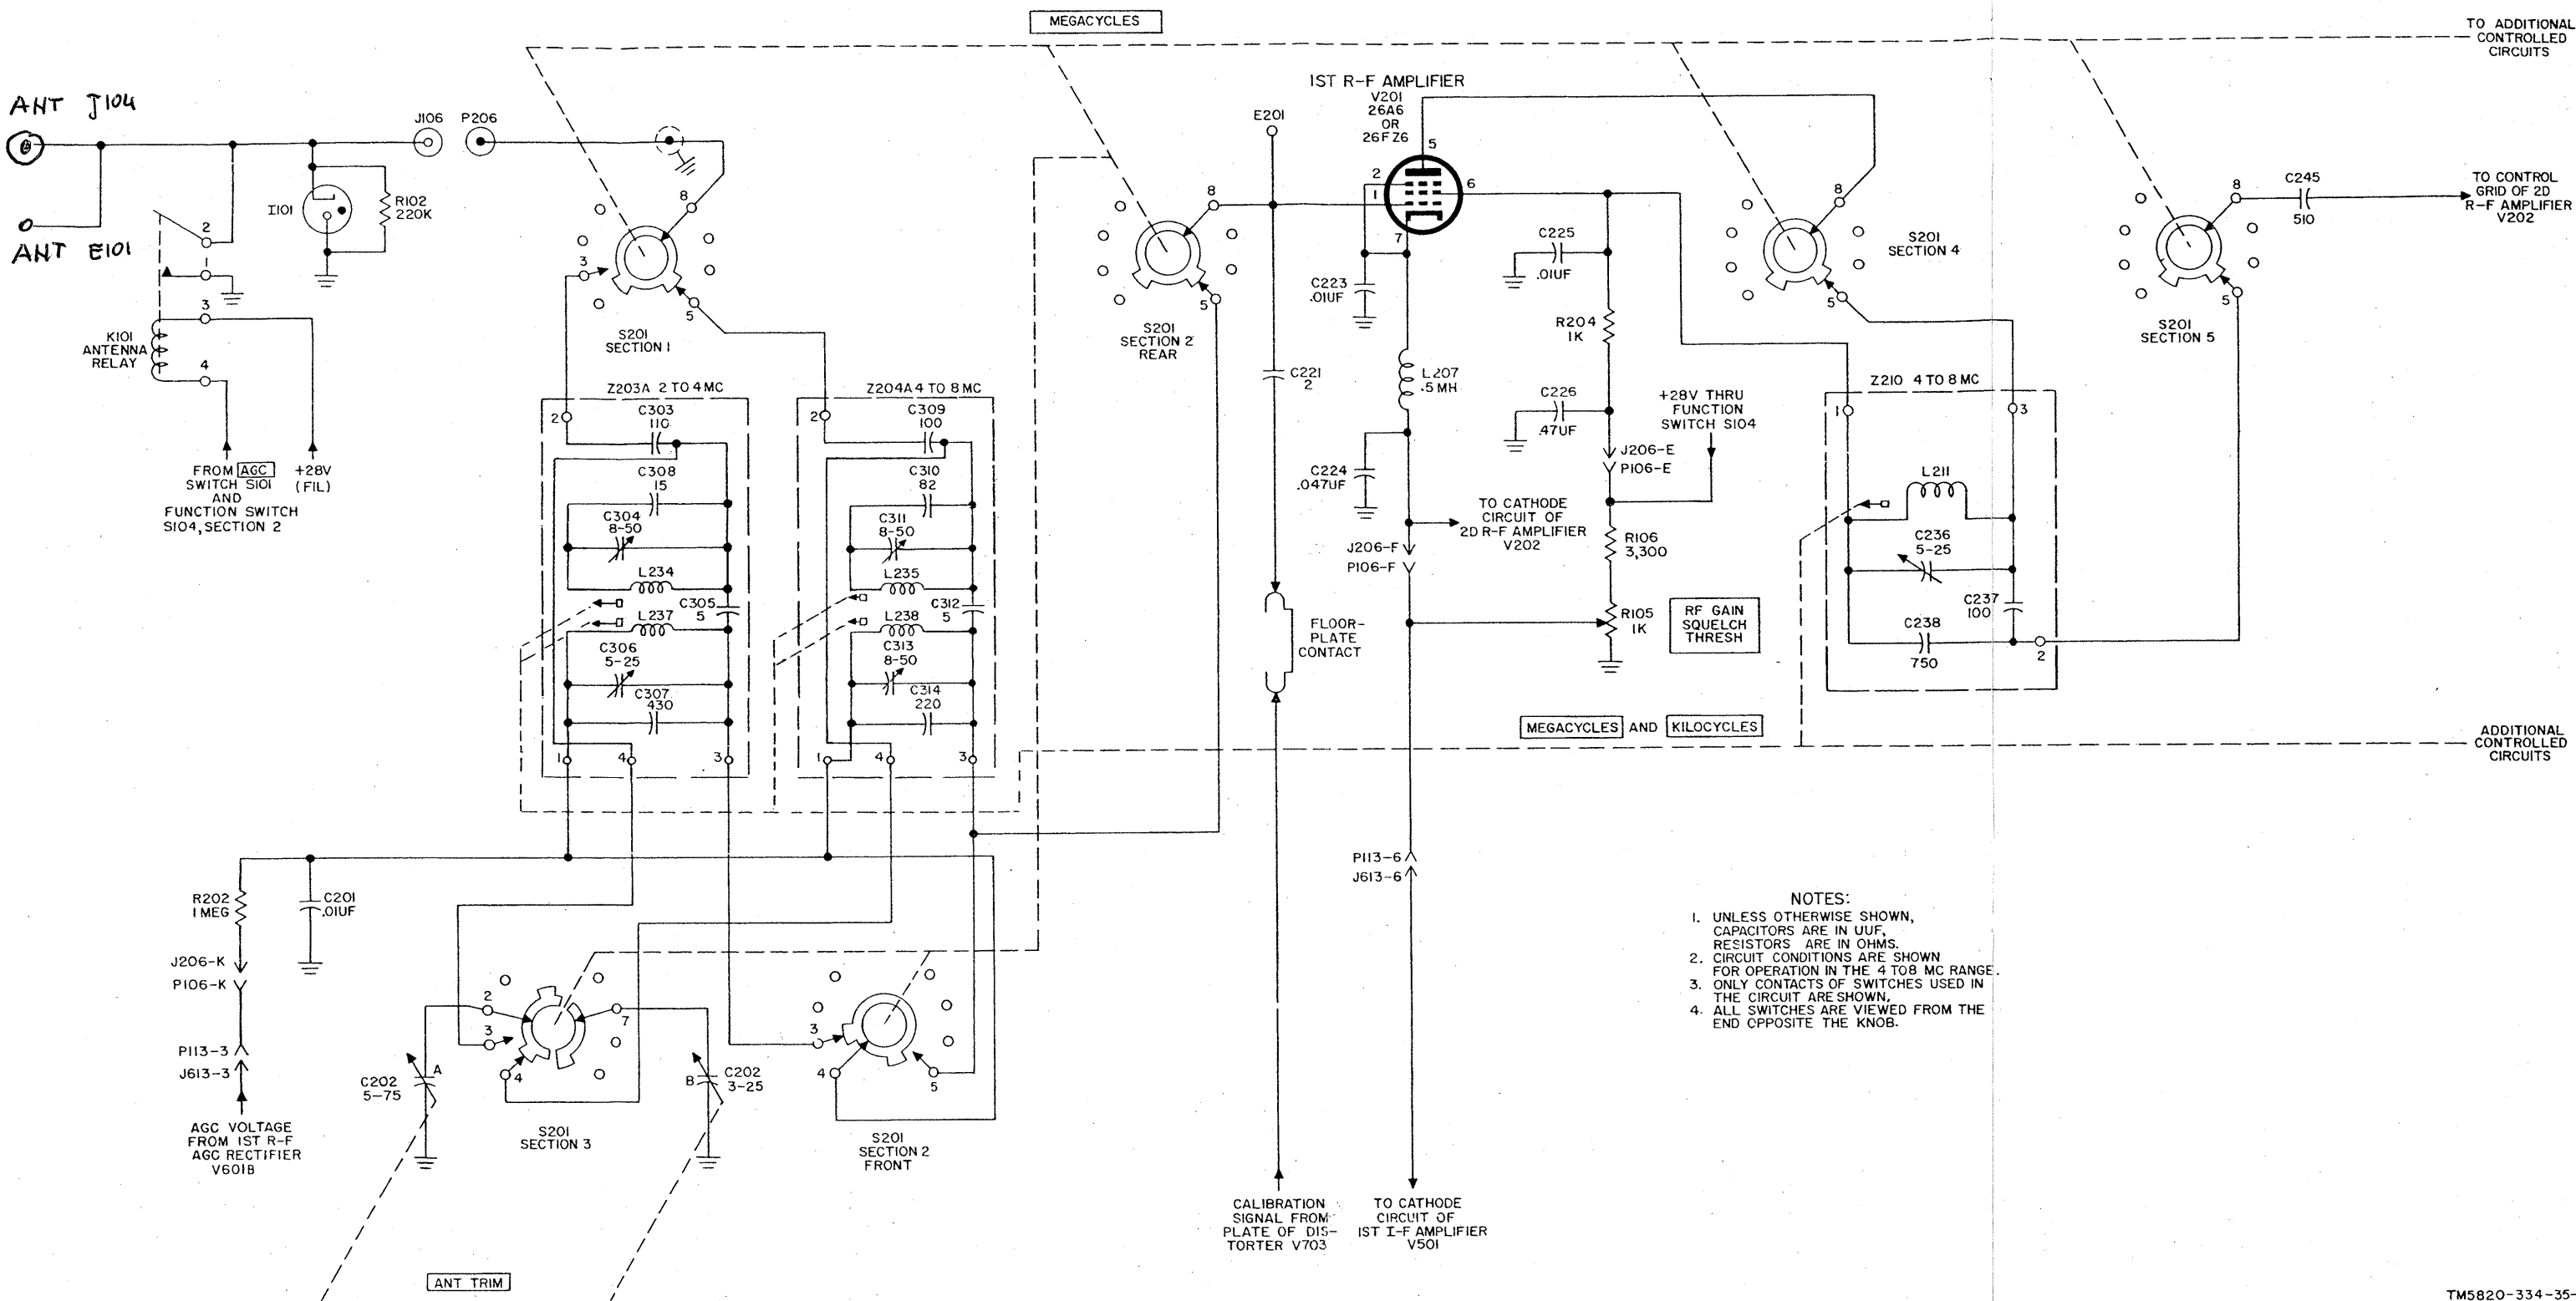

Figure 2. Antenna circuit and first rf amplifier, schematic diagram.
4. Antenna Circuit (fig. 2)
5. First Rf Amplifier V201 (fig. 2)